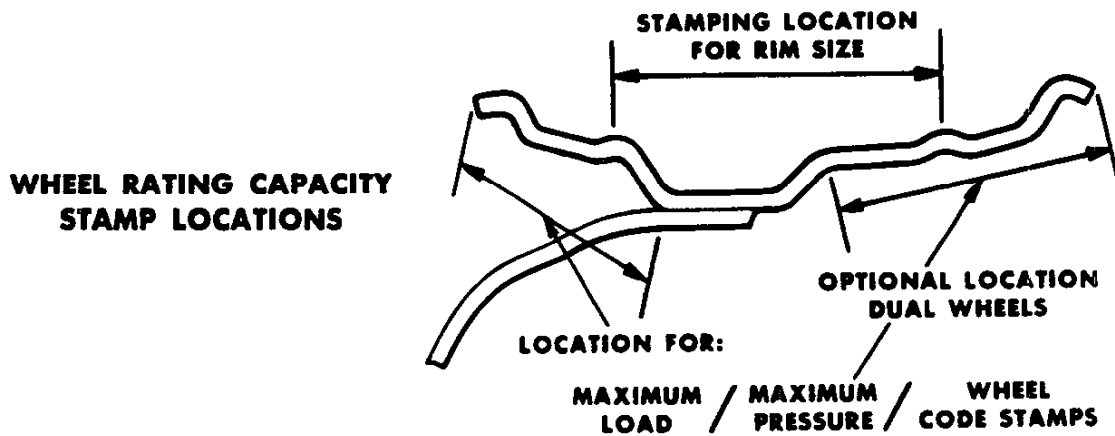

Figure 2
*See page 10, Fig. 2, for locations of wheel rating stampings.